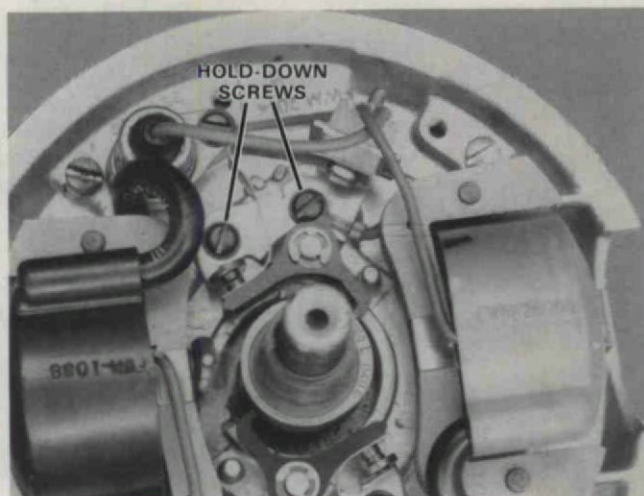

Figure 41. Location of Breaker Point Hold-Down Screws.
1. Position new coil at coil lamination of stator plate so that spark plug lead wire extends from upper left — inside (note position of spark plug lead wire in Figure 41).
2. Remove two screws holding breaker point to stator plate as shown in Figure 41.